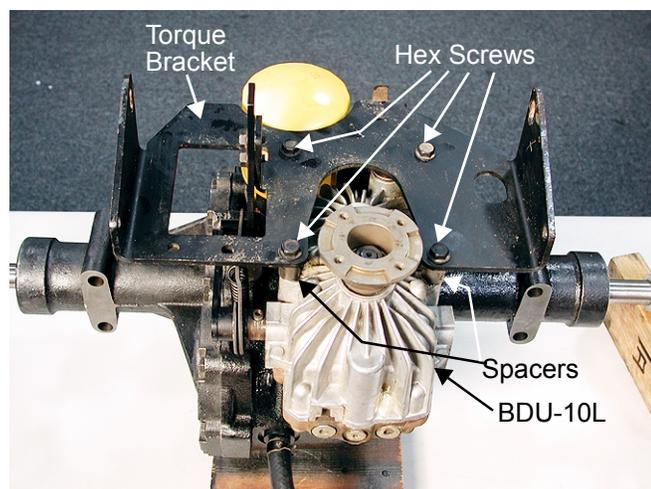

Figure 9
11. Remove all four hex washer head screws securing the front torque bracket, spacers and BDU-10L to the right transmission housing using a 1/2 in. socket. See Figure 9.